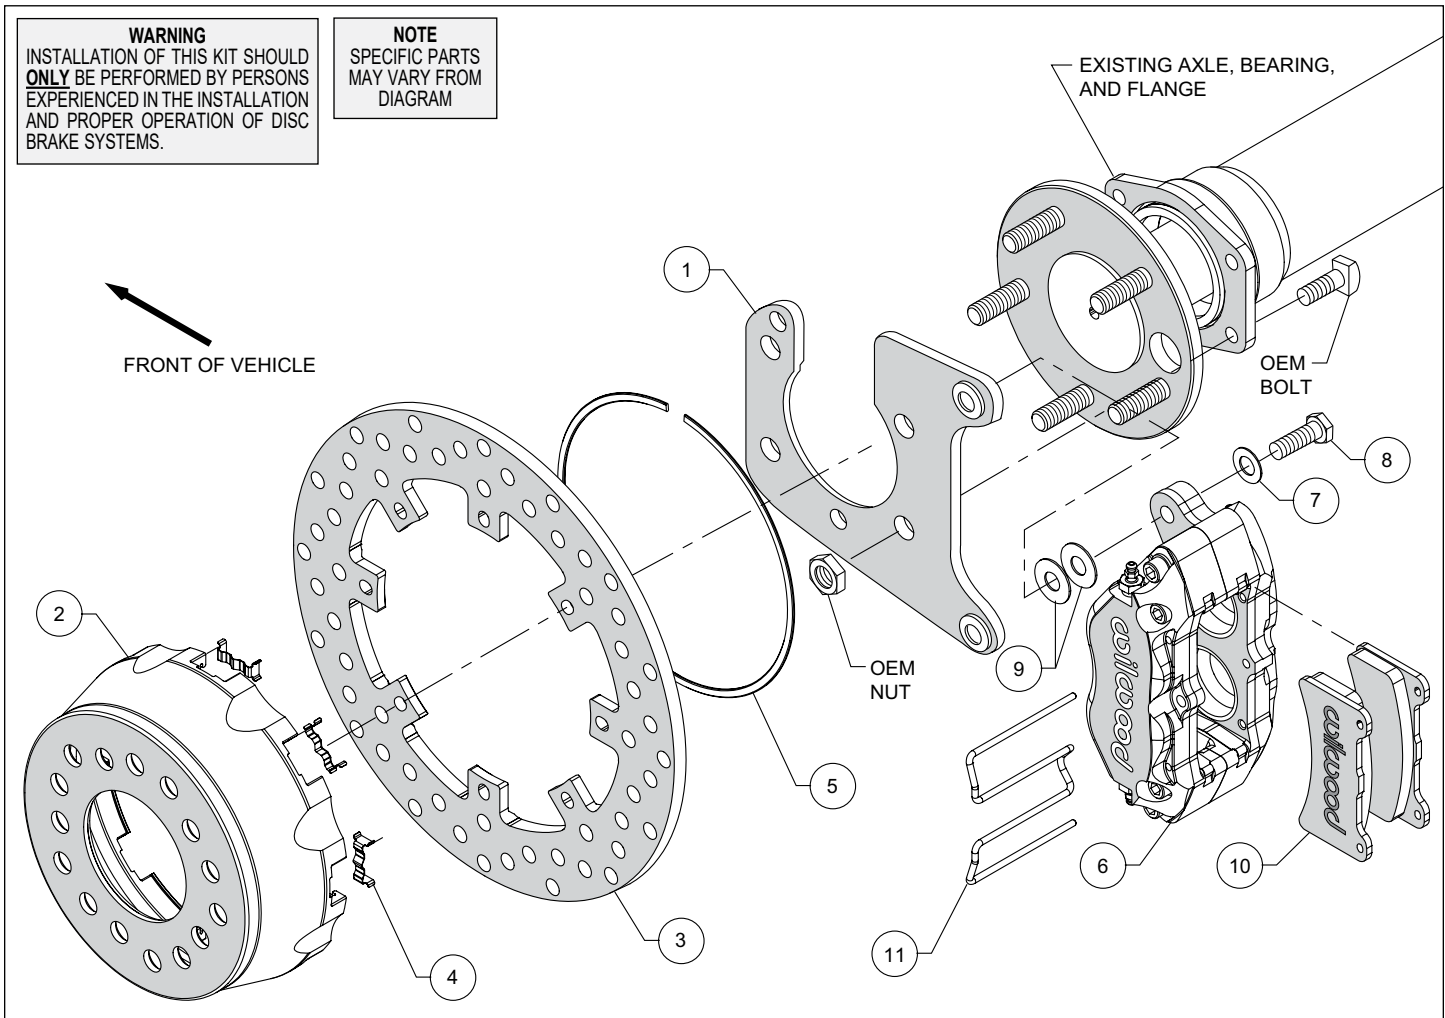

Figure 1. Typical Installation Configuration
Assembly Instructions (numbers in parenthesis refer to the parts list and Figure 1 on the preceding pages): **CAUTION:** All mounting bolts must fully engage clinch nuts. Be sure to check that all bolts are either flush or protruding through flanged side of clinch nut after shimming, Figure 5.
- Install the caliper mounting bracket (1), with the slot for the axle pointing upward, to the housing flange using the OEM bolts and nuts, as shown in Figure 1 and Photo 1. Ensure that the heads of the clinch nuts are facing outboard, Photo 1. Apply red *Loctite*® 271 to the OEM bolt threads and torque to OEM specifications.
- Insert the dynamic mount wear plates (4) into the slots in the hat (2) making sure the tabs snap in place, Photo 2. Orient the rotor (3) as shown in Figure 1 and Photo 3, with the flush mount tab side facing the hat. Attach the rotor to the hat using snap ring (5) by pushing down on the rotor and installing the ring into the groove in the hat, as shown in Photo 4. Ensure that the ring is fully engaged in the groove.
- Align the correct hole pattern in the hat (2) with the axle stud pattern and slide the hat/rotor assembly onto the axle hub. **NOTE:** The hat must fit flush against the axle flange or excessive rotor run out may result. Install three lug nuts (finger tight) to keep the hat/rotor in place while continuing with the installation. **NOTE:** Some OEM and aftermarket axles come with stud sizes larger than 0.50" diameter. Verify stud size, and if necessary, have a qualified machine shop drill the hats to the correct size.
- NOTE:** Please reference the caution statement at the beginning of the assembly instructions. Mount one caliper (6) onto the mounting bracket (1) using bolts (8) and washers (7), as shown in Figure 1. Initially place two .035" thick shims (9) on each bolt between the caliper and the bracket, Photo 5. Temporarily tighten the mounting bolts and view the rotor (3) through the top opening of caliper. The rotor should be centered in the caliper, Photo 6. If not, adjust the caliper by adding or subtracting shims between the bracket and the caliper. Always use the same amount of shims on each of the two mounting bolts. **NOTE:** The end of each bolt must be flush with or slightly protruding from the head of the clinch nut. If necessary, place spare shims between washer and caliper mounting ear to achieve the proper clinch nut engagement, as shown in Figure 5. Once the caliper alignment and clinch nut engagement are correct, remove the bolts one at a time, apply red *Loctite*® 271 to the threads, and torque to 40 ft-lb.